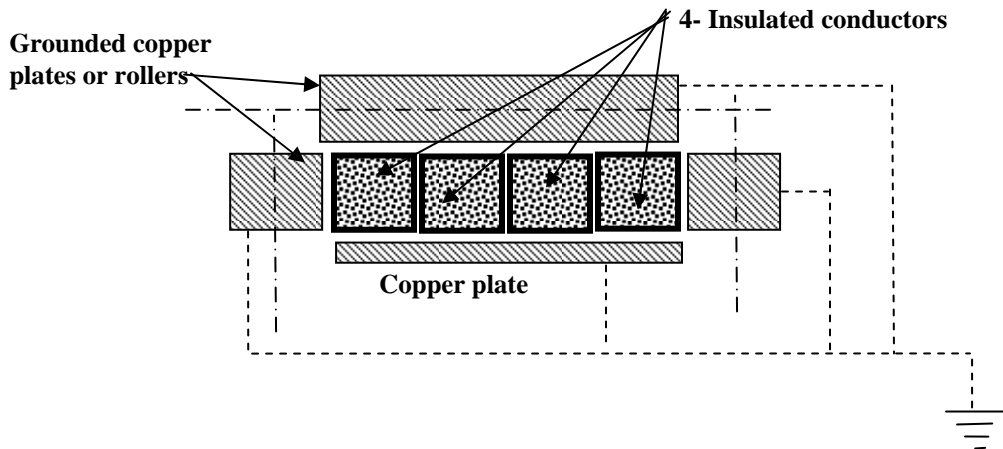

Figure 23-Schematic of Turn Insulation Tester
6.15.2 During the winding process, the pre-insulated copper rope conductors will be scanned with an electrical short indicator [“Whisker Detector”] that will identify any copper fibers that may protrude from the insulation causing turn to turn or turn to ground shorts. [Figure 23-Schematic of Turn Insulation Tester] If a copper whisker is detected, the whisker will be removed and one strip of adhesive backed Kapton tape will be wrapped around the conductor at the point where the whisker was detected prior to proceeding.